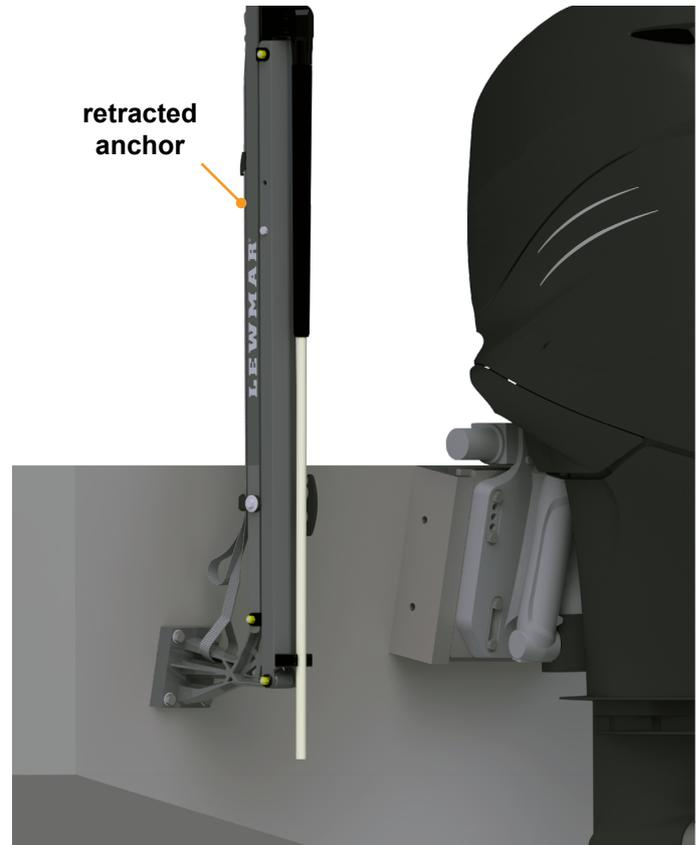

Fig.10
**NOTE:** If needed, use straps or some other type of cordage to firmly secure the anchor in its upright, stored position (Fig.10) before putting underway.